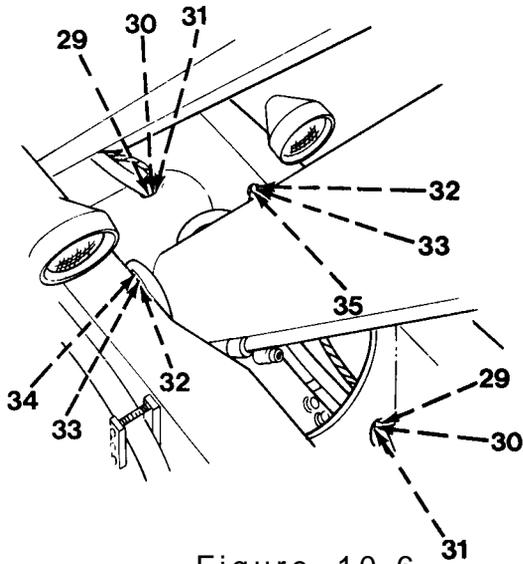
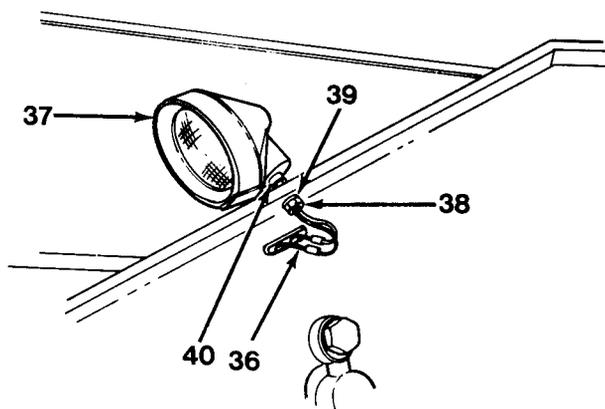
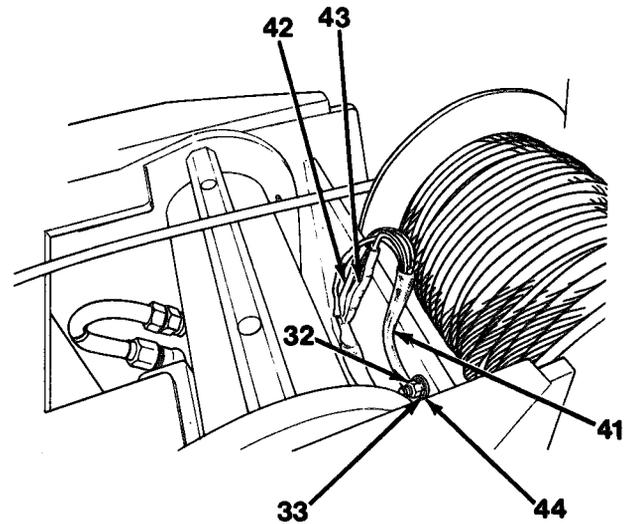
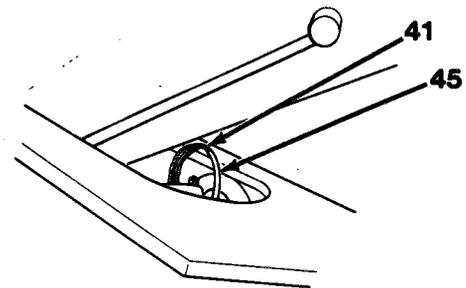

Figure 10-6
Figure 10-7
Figure 10-8
Figure 10-9
15. Remove two nuts (29), washers (30) and clamps (31, Figure 10-6).
16. Install two washers (30) and nuts (29).
17. Remove nut (32), washer (33) and clamp (34).
18. Remove nut (32), washer (33) and clamp (35).
21. Disconnect two work light wires (36) from each of the three work lights (37, Figure 10-7).
22. Remove three nuts (38), washers (39), work lights (37) and spacers (40).
23. Disconnect wire harness (41) from wire harnesses (42) and (43, Figure 10-8).
24. Remove nut (32), washer (33) and clamp (44).
25. Disconnect wire harness (41) from collector ring wire harness (45, Figure 10-9).
26. Remove wire harness (41).